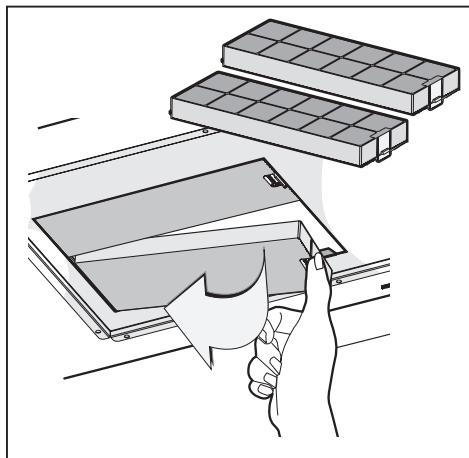
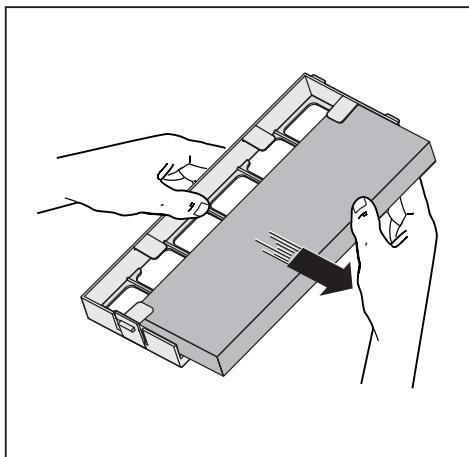

Fig.16
Fig.17
- **Filtering version:** we have two different types of Kit, one with extractable carbon filters (Fig.16) and the other one with re-usable carbon filters (washable) (Fig.17).
- Fix the flexible pipe to the deflector **M** and fix screw **I** as indicated in Fig.13, the active carbon filters must be applied to the suction unit positioned inside the hood (Fig.16).